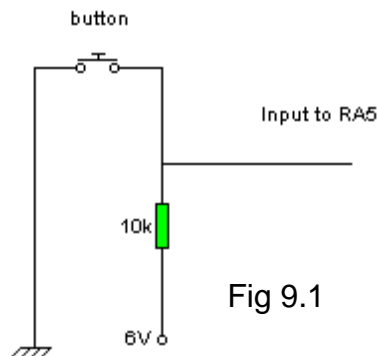

Fig 9.1
- Use the following schematic to wire a push button to RA5 (Fig 9.1).